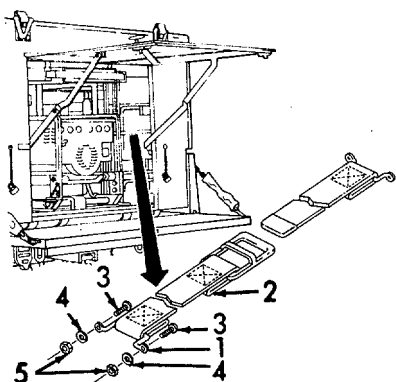

Figure 5-2. Chair Holddown and Stand Container, Installation.
f. *Installation.* (Refer to Figure 5-2).